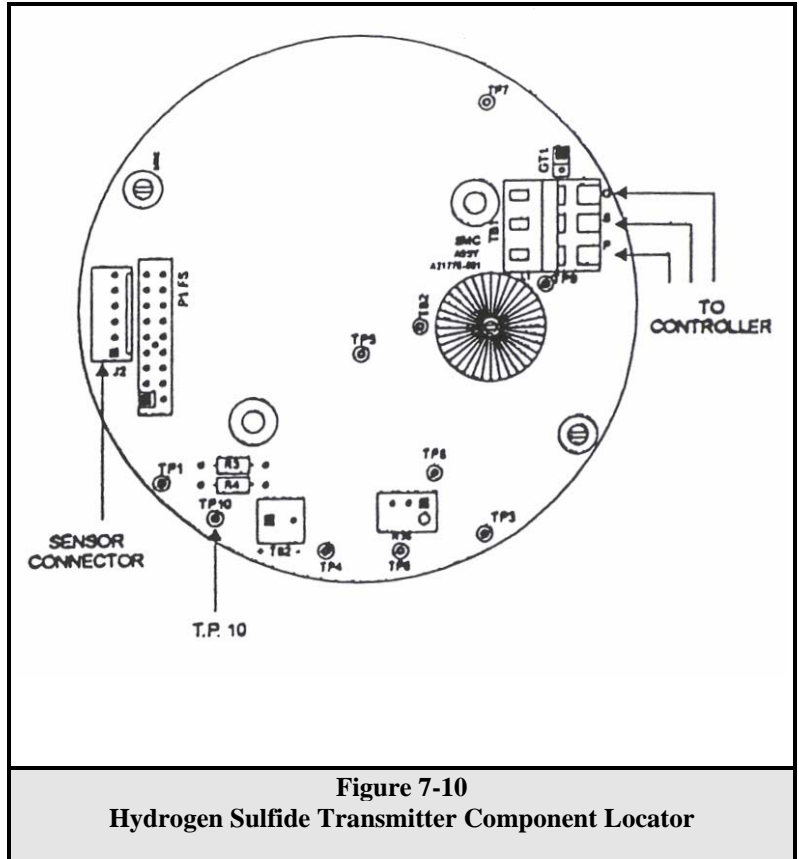

Figure 7-10
4. Connect a DVM across TP10 and GT1 on the transmitter assembly. Figure 7-10